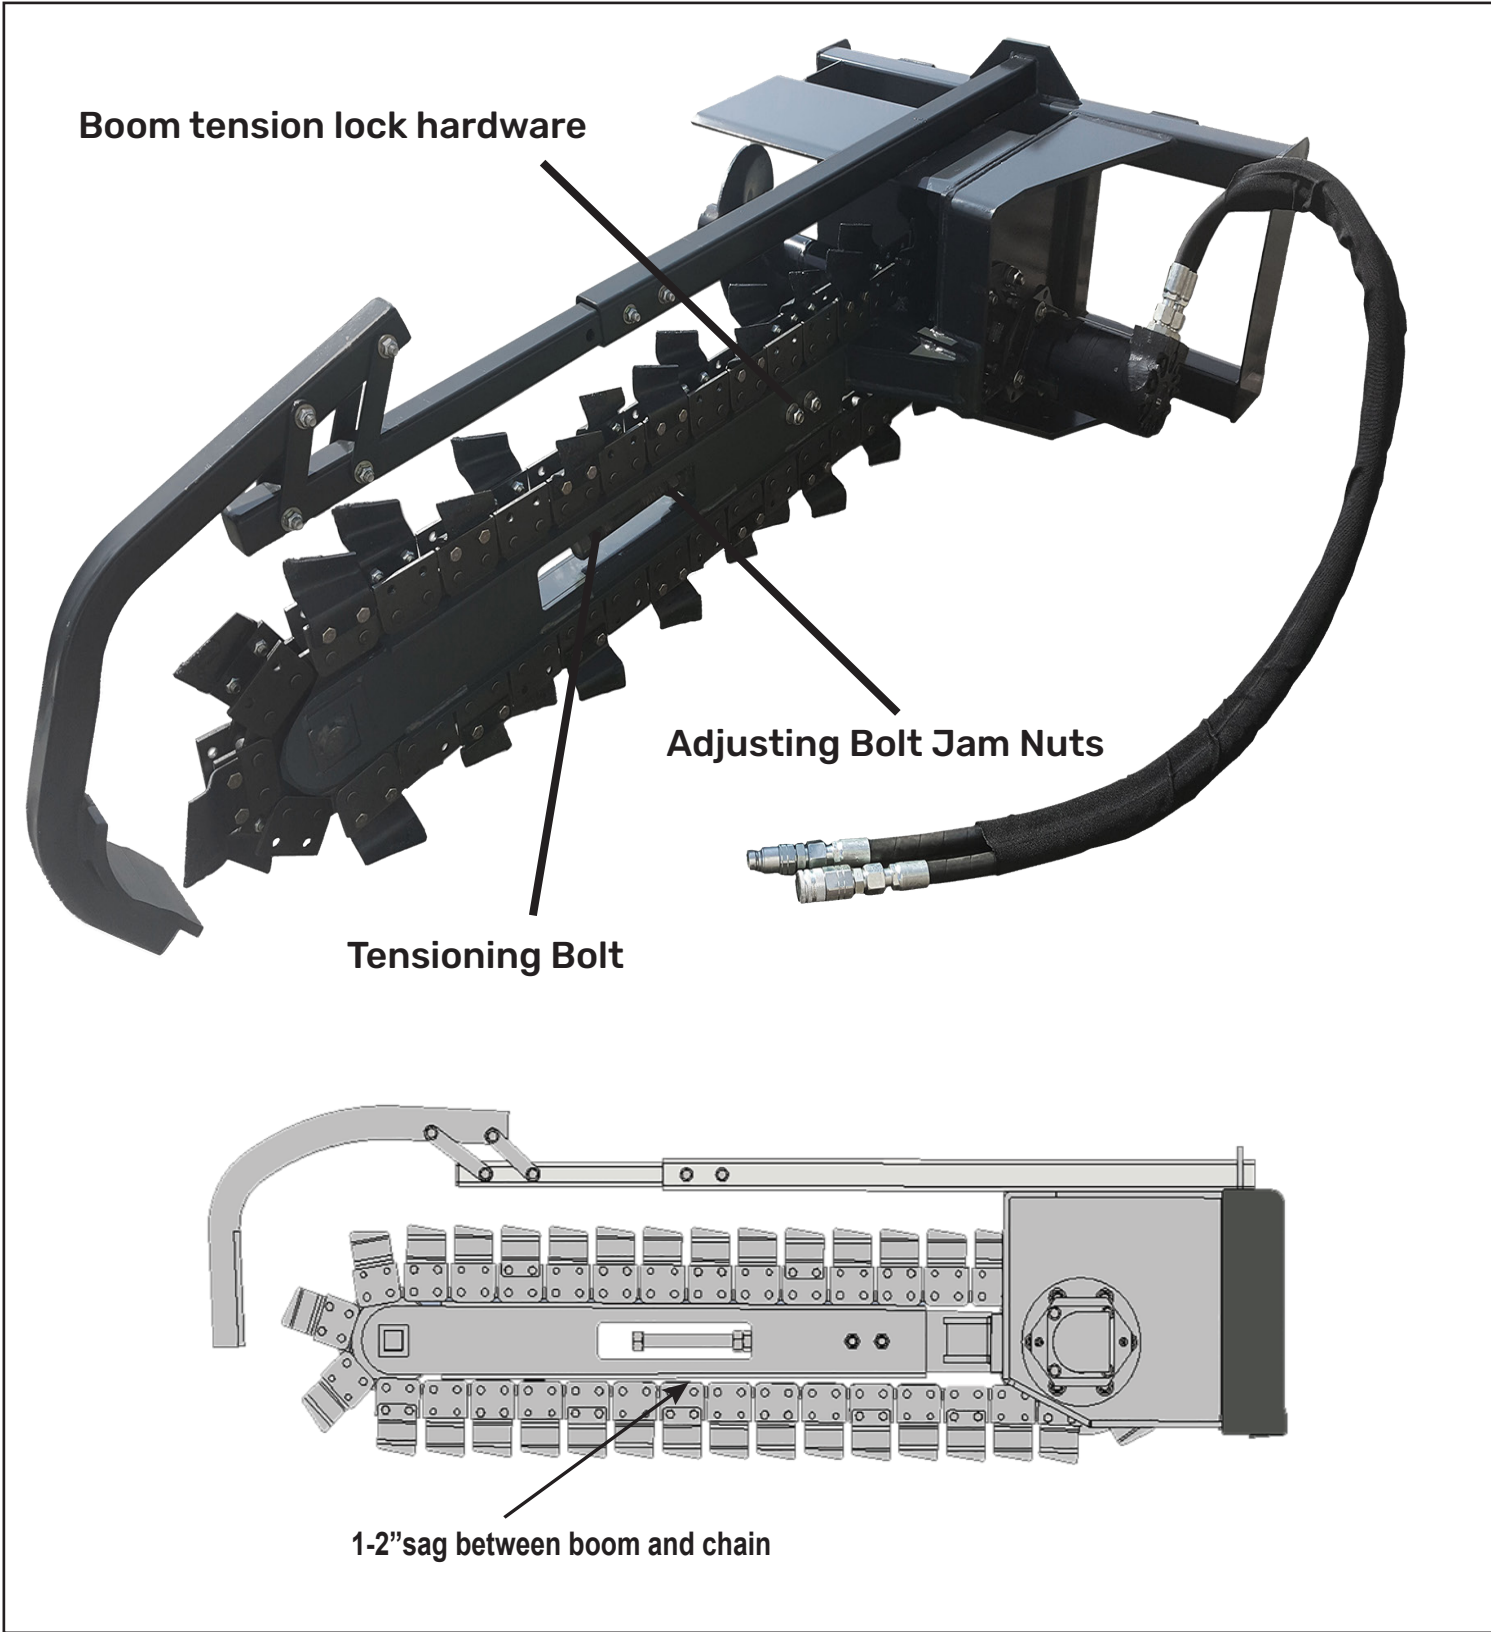

Figure 4.4a Chain Adjustment
3. Turn the tensioning bolt clockwise until there is a 1-2 inches of sag between the chain and the middle section of boom. (See Figure 4.4a on next page.)